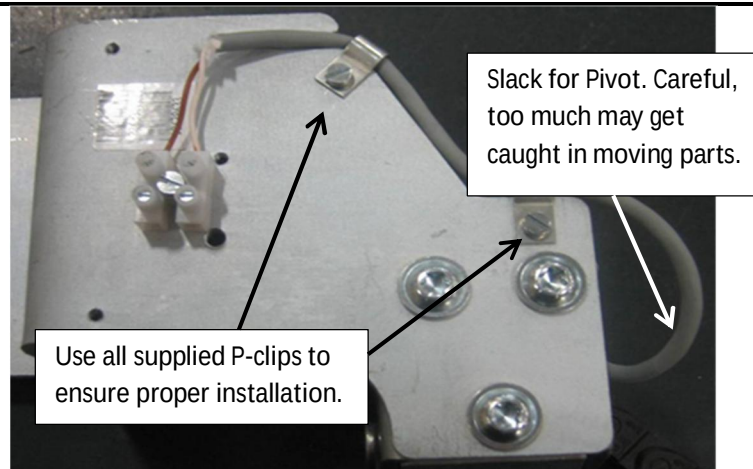

Figure 5
4. The P-clips on the bracket allow for the proper routing of the reversing edge cable. (See Figure 5 for proper routing of the reversing edge cable).